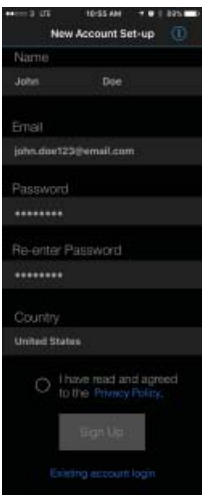

Fig. 2.6a
- Set up a new User Account to link your app to the Smart Panel (Fig: 2.6a)